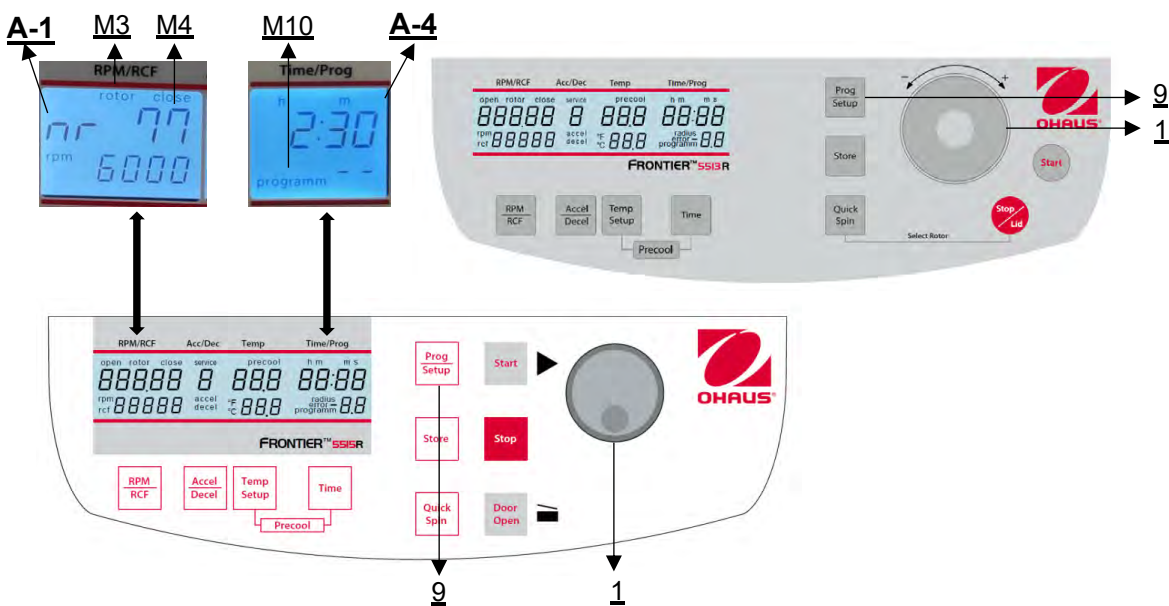

Figure 21
To recall stored programs, press the key **"Prog/Setup"** (9) (see Figure 21) while the lid is already closed. Inside the display **"Time/Prog"** (A-4), **"program--"** (M10) appears. The desired program number can be pre-selected with the touch wheel (1).
To leave the program mode just press the key "Prog/Setup" (9) (see Figure 21). Then inside the display "Time/Prog" (A-1) the word "programm" (M10) appears. Set the display to "programm--" (M10) with the touch wheel (1).
You can start the centrifuge either with the "Start" key (8) or the "Quick Spin" key (6) (see Figure 21). By the "Start" key (8) you can start stored runs or runs with manually pre-selected parameters. When the respective pre-selected running time has ended the centrifuge will stop automatically. By the "Quick Spin" key (6) you can start runs, which will last just a few seconds.